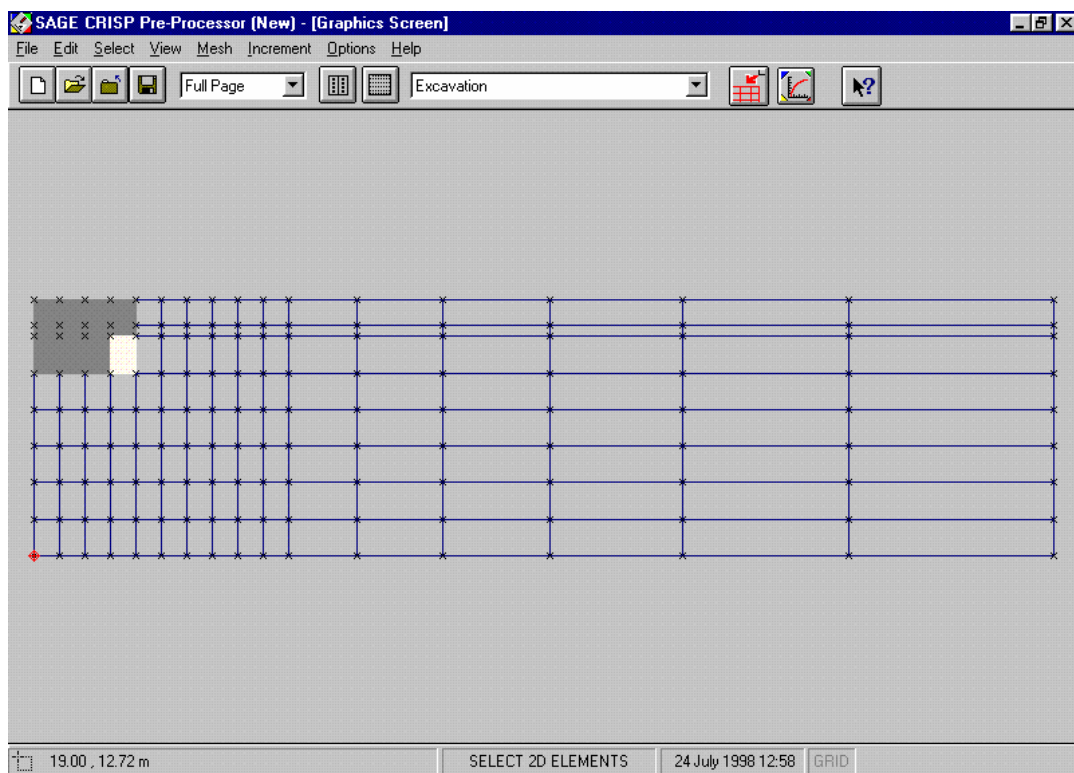

Figure 5-17: Removing Elements in “Excavate” Increment
- Step 2** In the Select menu, click on **Domain Elements** and select all of the elements highlighted in Figure 5-17.